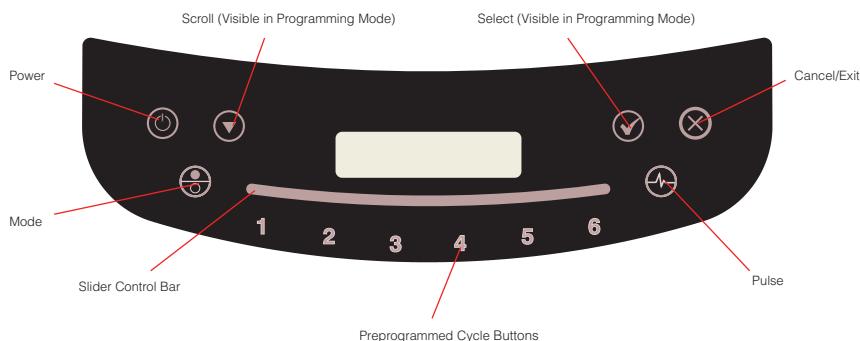

Figure 7. Control Surface
- Enter automatic operation mode by touching the mode icon  so that numbers 1–6 appear on the control surface (see Figure 7). The LED screen will indicate which profile is currently selected. (To activate a different profile, see Section 5.4.1.)